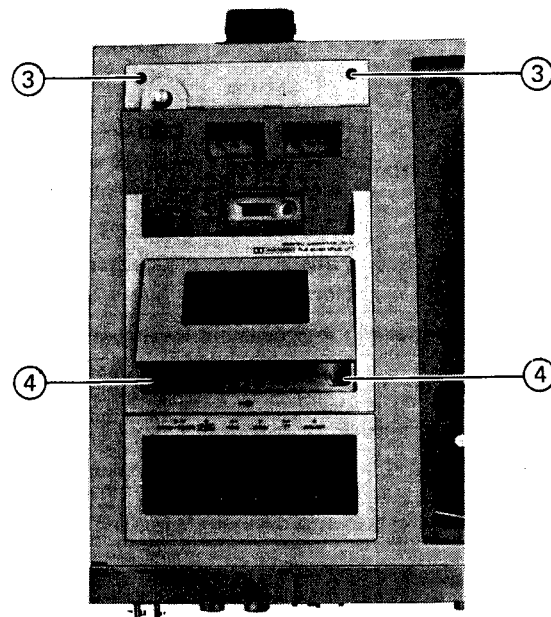

Figure 7.
1. Remove 4 screws ③ and ④. See figure 7.